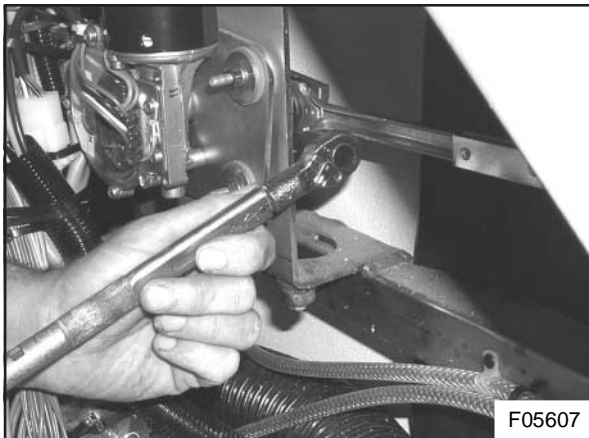

Figure 15 : Torqueing the clamp nuts
- 18) Tighten both the motor shaft bolt and the bell crank knuckle bolt to a torque of 9 to 15 ft.lbf (13 to 15 Nm) as shown in Figure 15.